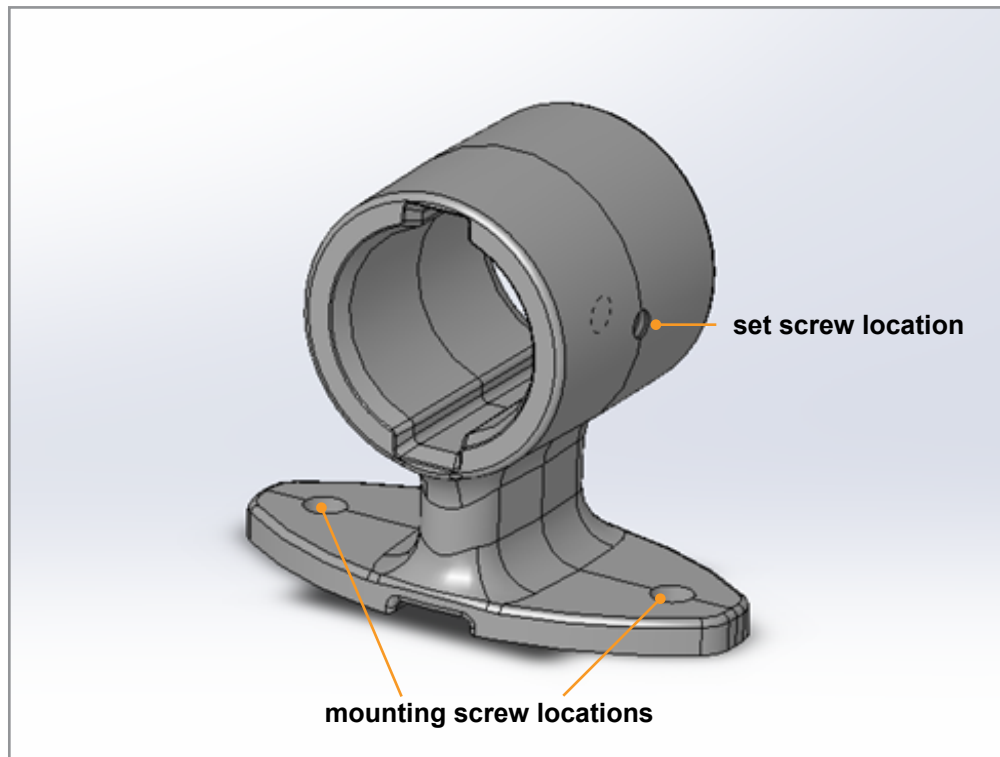

Fig.8
5. At this point tighten the pre-installed set screws in each of the 4 grab bar clamps (**Fig. 8**), and tighten all 8 of the mounting screws which were left loose up until this point.